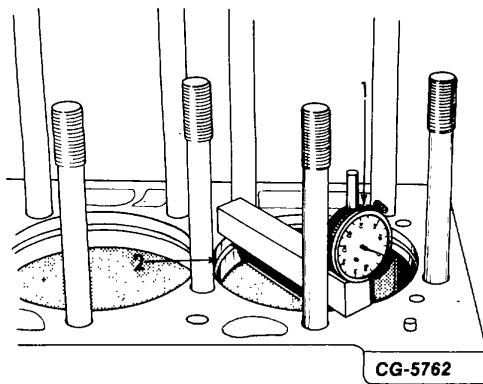

Figure 22. - Checking Crankcase Counterbore Depth
1. Check the crankcase counterbore depth with depth gauge (1, Fig. 22), 1 020 560 R91, at four points around the counter-bore (2) as shown in Fig. 22.